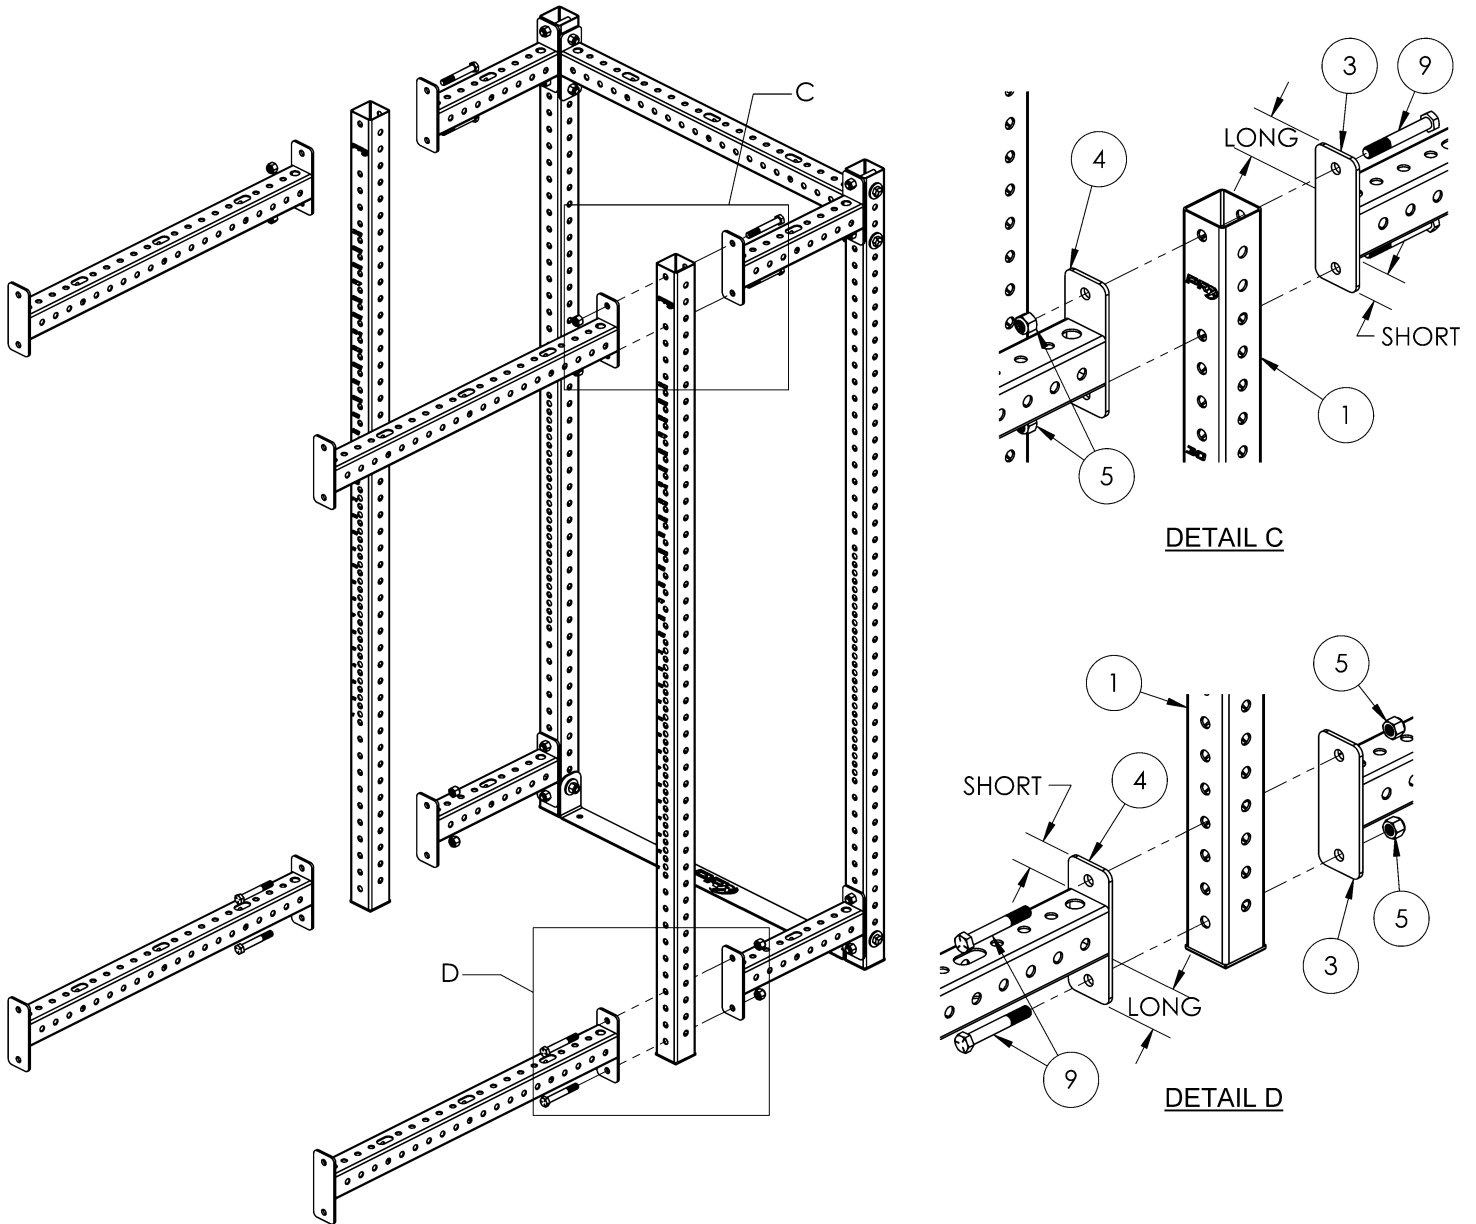

Figure 2
1. Attach interior Uprights (1) and Long Crossmembers (4) to the front of the Short Crossmembers (3) with hardware shown. **Figure 2**